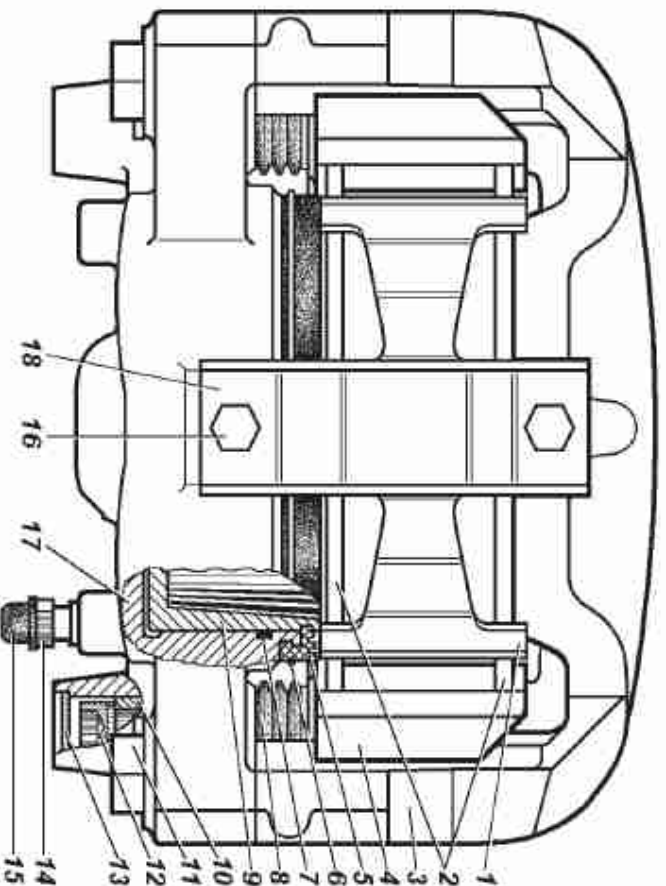

Fig. 9.34 Front disc brakes:
**Front disc brakes.** To inspect brake shoes 2 (Fig. 9.34), place the vehicle on a level ground and set the parking brake. Inspect the shoes through the window in caliper 4. If the linings wear to the thickness of 1.5–2.0 mm, replace the shoes on both front brakes.